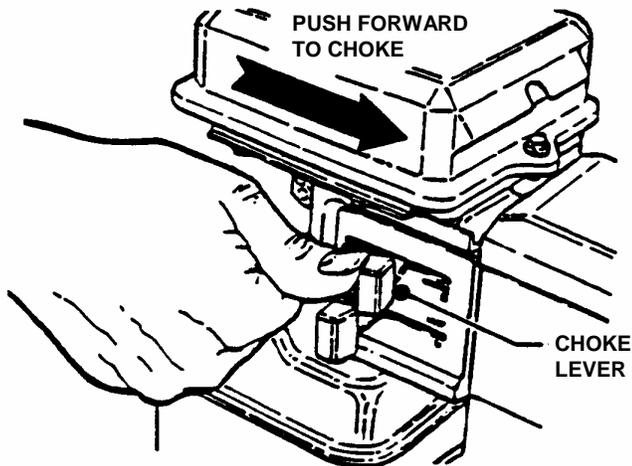

FIGURE 5
**Step 2: For cold starts,** move the CHOKE CONTROL on the engine forward into CHOKE position. See Figure 5.